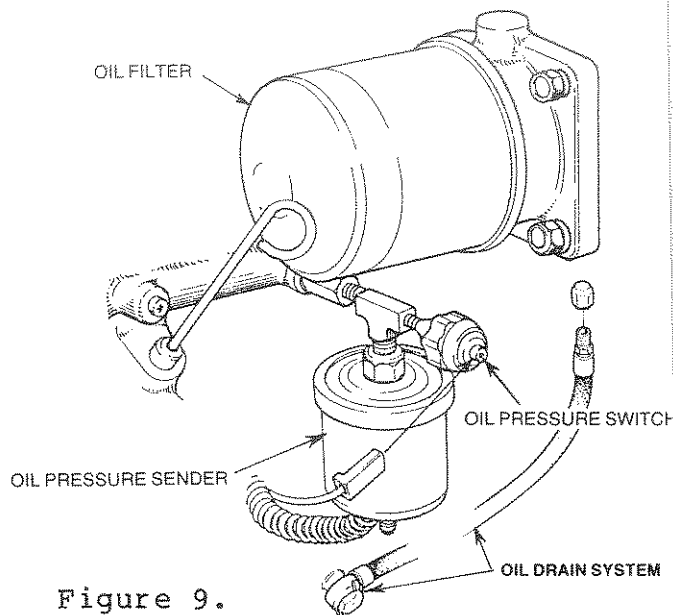

Figure 9.
5. Replacement of Oil Filter (See Figure 9)